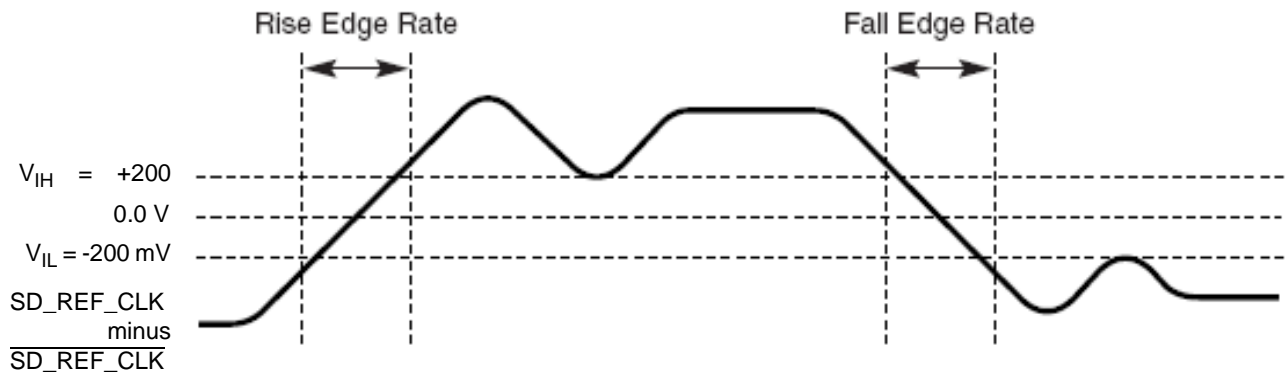

Figure 24. Differential Measurement Points for Rise and Fall Time
The differential waveform is constructed by subtracting the inverting signal (for example, $\overline{TX_n}$) from the non-inverting signal (for example, TX_n) within a differential pair. There is only one signal trace curve in a differential waveform. The voltage represented in the differential waveform is not referenced to ground. Refer to Figure 24 as an example for differential waveform.
3. Measured from -200 mV to +200 mV on the differential waveform (derived from SD_REF_CLK minus $\overline{\text{SD_REF_CLK}}$). The signal must be monotonic through the measurement region for rise and fall time. The 400 mV measurement window is centered on the differential zero crossing (Figure 24).